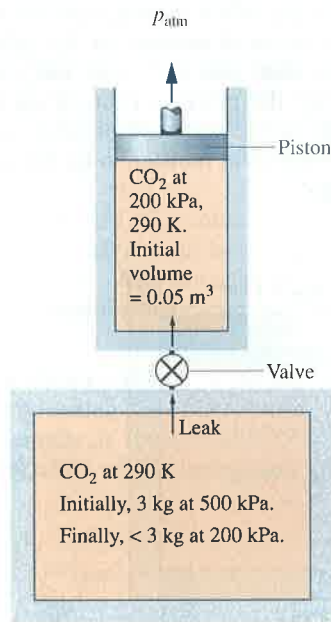

Fig. P3.134
3.134 As shown in Fig. P3.134, a rigid tank initially contains 3 kg of carbon dioxide (CO₂) at 500 kPa. The tank is connected by a valve to a piston–cylinder assembly located vertically above, initially containing 0.05 m³ of CO₂. Although the valve is closed, a slow leak allows CO₂ to flow into the cylinder from the tank until the tank pressure falls to 200 kPa. The weight of the piston and the pressure of the atmosphere maintain a constant pressure of 200 kPa in the cylinder. Owing to heat transfer, the temperature of the CO₂ throughout the tank and cylinder stays constant at 290 K. Assuming ideal gas behavior, determine for the CO₂ the work and heat transfer, each in kJ.